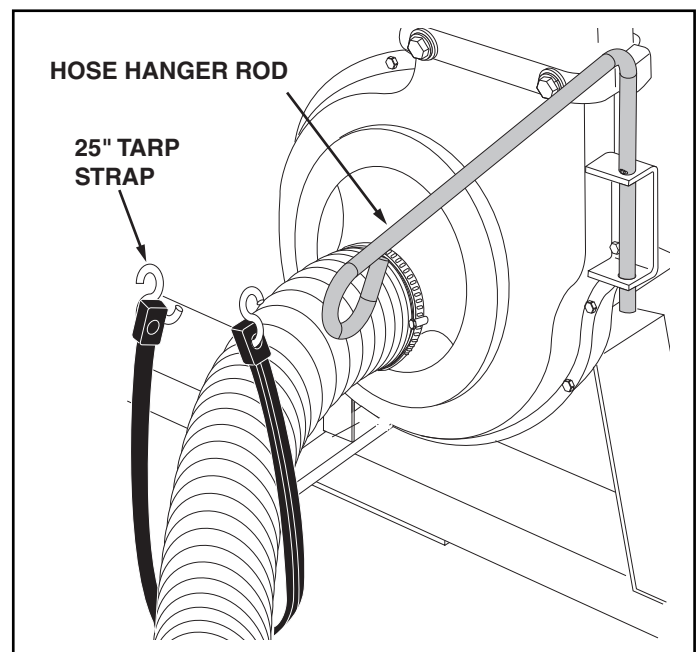

FIGURE 9
14. Place the hose hanger rod into the hose hanger bracket on the impeller housing assembly. See figure 9.
15. Loop the 25" tarp strap under the hose. Fasten the hooks to the hose hanger rod. See figure 9.